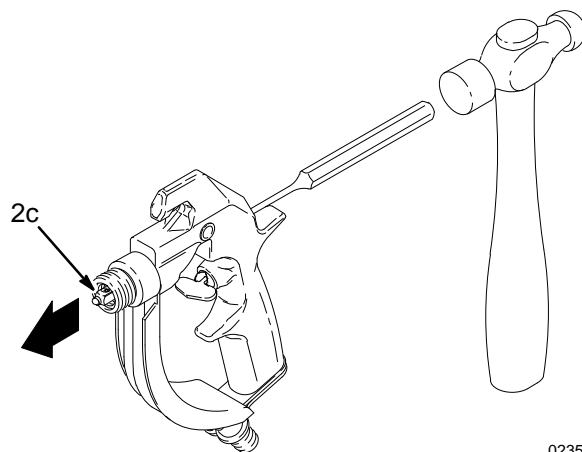

Fig. 6
4. Insert a punch into the rear of the gun and tap it to push the needle (2c*) out the front of the gun. See Fig. 6.